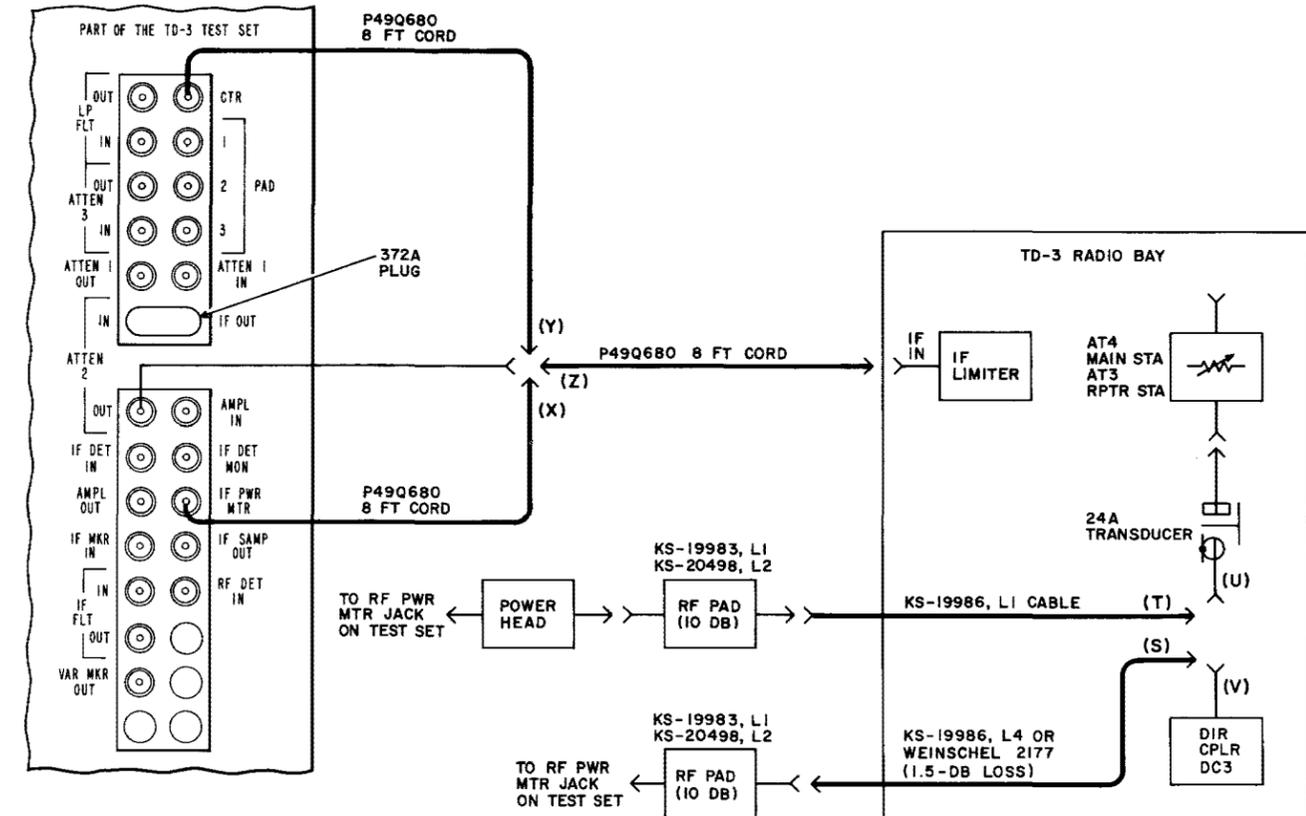

Fig. 4—Transmitter Power Measurement Test Setup
- 7 Adjust attenuator AT4 (main) or AT3 (repeater) to obtain (+26 -L) dBm when using option (S), Fig. 4, or (+27.5 -L) dBm when using option (T), Fig. 4. (L is the calibrated loss of DC3.)
2	Connect option (Z) of Fig. 4.
5	Connect option (S) or option (T) to option (V) in Fig. 4 and measure the power.  Requirement: +37.0 dBm  Required power meter indication:  Option (S): +26.0 dBm $\pm 0.2$ dB minus the calibrated loss of the 24B directional coupler.  Option (T): +27.5 dbm $\pm 0.2$ dB minus the calibrated loss of the 24B directional coupler.  If the requirement is met, it can be assumed that the 3-dB drop sensitivity of the alarm circuit has not changed; proceed to Step 14. If the requirement is not met, proceed with Step 6.